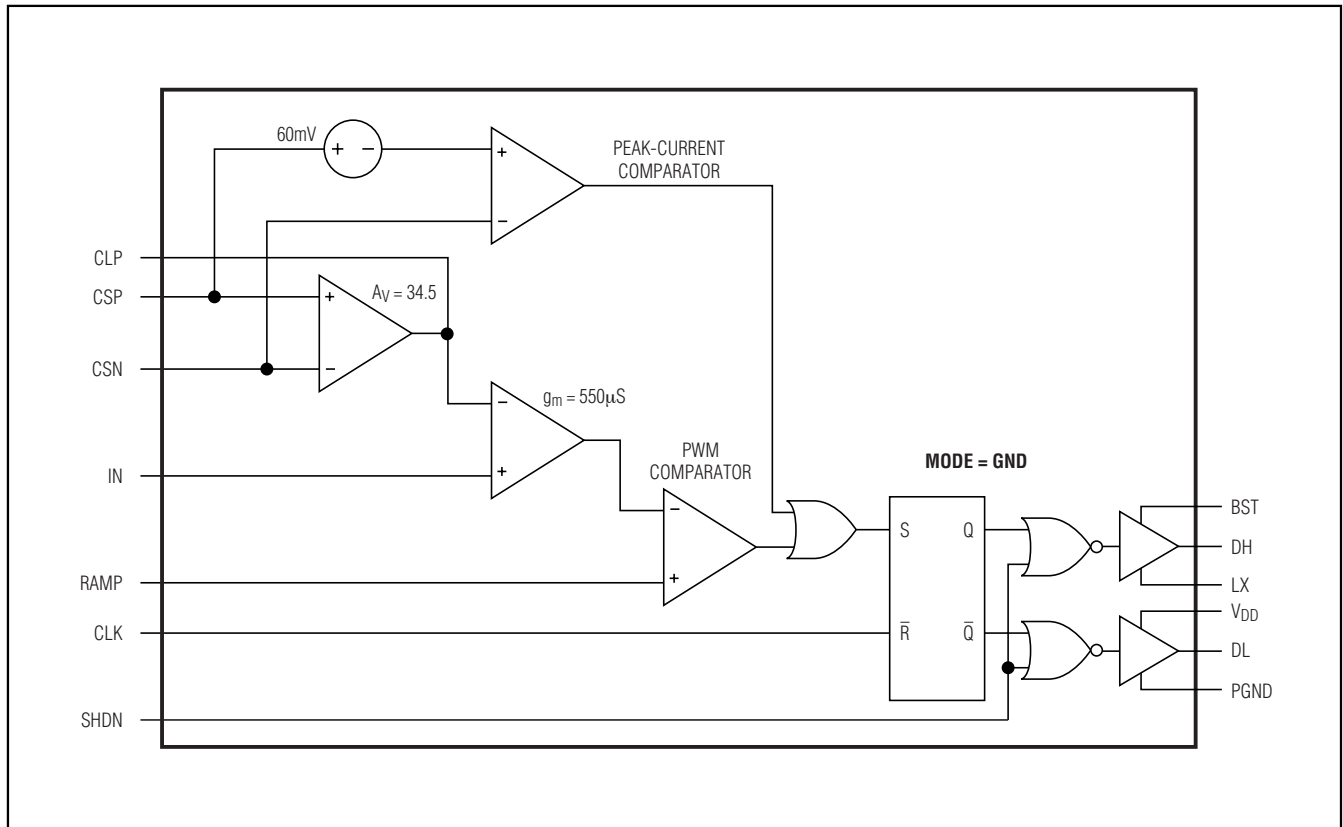

Figure 3. MAX16821A/MAX16821B/MAX16821C Phase Circuit
The peak-current comparator provides a path for fast cycle-by-cycle current limit during extreme fault conditions, such as an inductor malfunction (Figure 3). Note the average current-limit threshold of 27.5mV still limits the output current during short-circuit conditions. To prevent inductor saturation, select an inductor with a saturation current specification greater than the average current limit. The 60mV threshold for triggering the peak-current limit is twice the full-scale average current-limit voltage threshold. The peak-current comparator has only a 260ns delay.
$2\text{V}_{\text{p-p}}$ ramp signal. At the start of each clock cycle, an R-S flip-flop resets and the high-side driver (DH) turns on if MODE is connected to SGND, and DL turns on if MODE is connected to V_{CC} . The comparator sets the flip-flop as soon as the ramp signal exceeds the CLP voltage, thus terminating the ON cycle. See Figure 3.